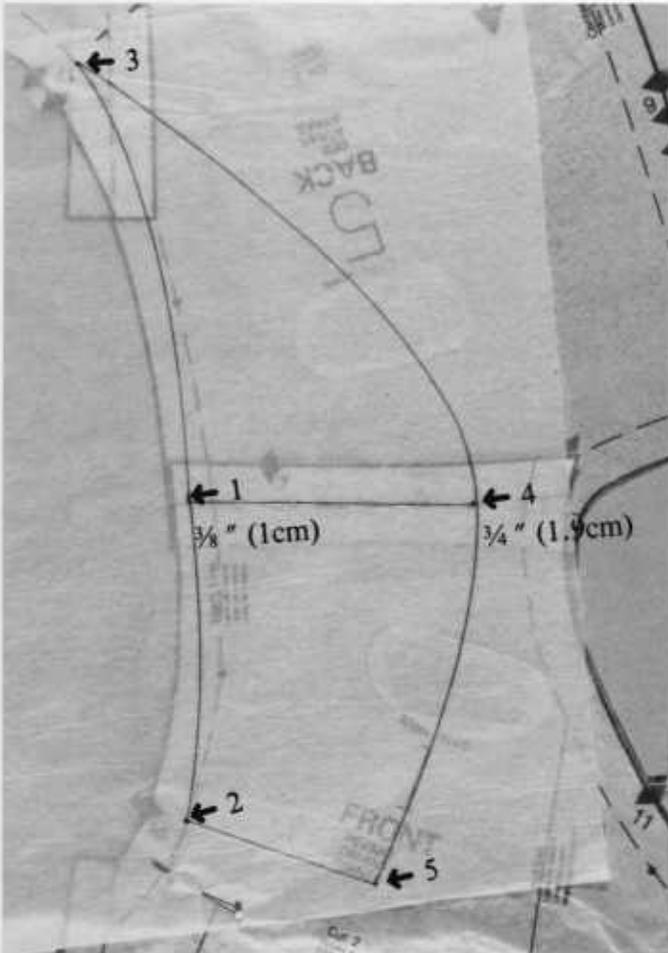

figure 9
- Measure into the armhole seam allowance $\frac{3}{8}$ " (1 cm) from the shoulder tip seam edge and mark (1).
- Join the single (2) and double armhole (3) notches at the seam line with a slightly curved line that extends through the shoulder tip marking (1).
- Measure $\frac{3}{4}$ " (1.9 cm) from the neckline edge on the shoulder seam and mark (4).
- Make a wide curve that ends at the double notch on back piece (3).
- Make another dot on front piece 3"-4" (7.5-10 cm) inside the pattern (5) along a line between the single notch and the centerfront.
- Connect the single notch (2) with the new dot (5).
- Connect this dot (5) with a slightly curved line to the $\frac{3}{4}$ " (1.9 cm) shoulder dot (4). The line will be 5"-7" (12.5-15 cm) long.
- Trace the new lines onto paper to use as a pattern. Trace the shoulder seam on the new shoulder shape pattern (figure 9).